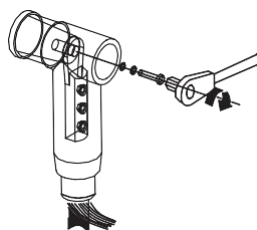

Fig. 1
- When installing cable heads, ensure reliable contact between the terminal lapping surface and the cable bushing lapping surface (see Figure 1), and apply the correct torque.